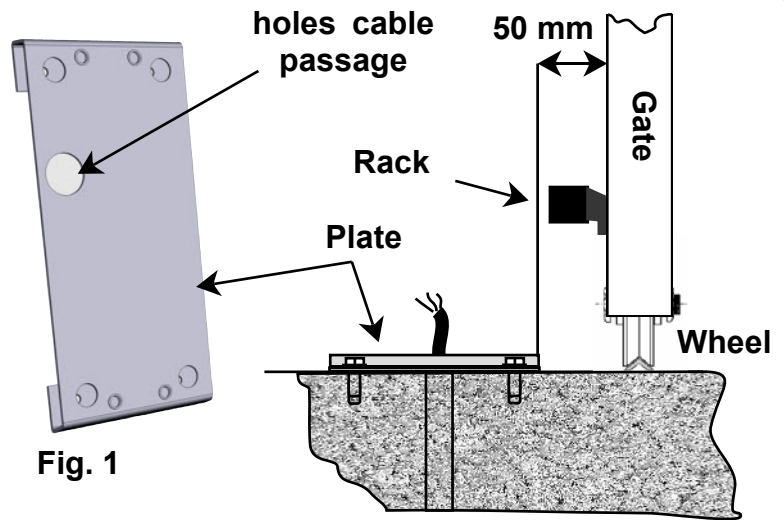
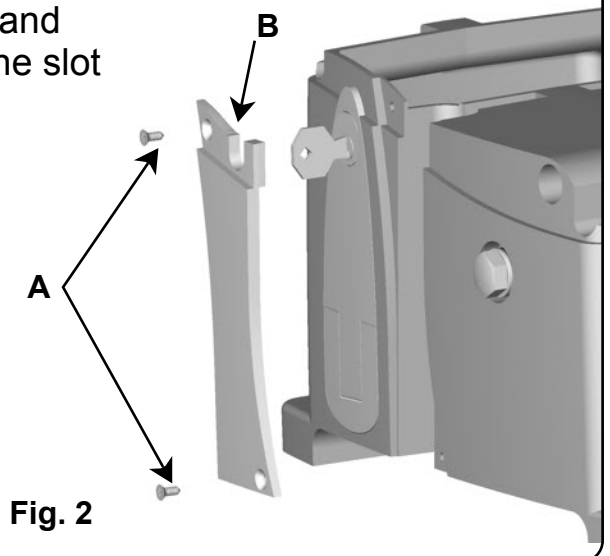
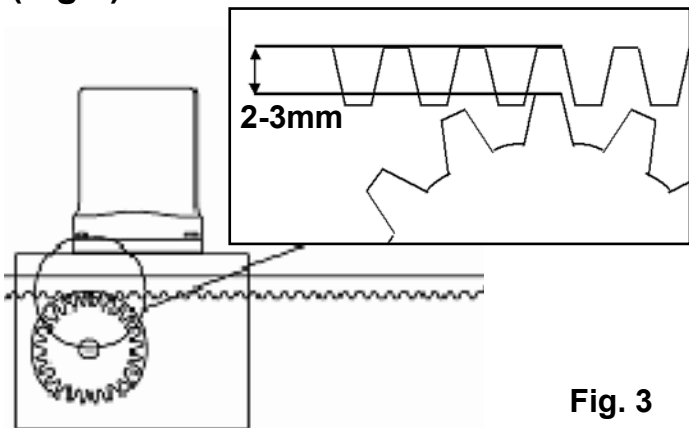

Fig. 1
Fig. 2
Fig. 3
- Also check that the runner on the ground ( **Fig. 1** ) is not deformed, is perfectly level and that the mechanical stop is present on opening ( **Fig. 2** ) in order to **prevent** the gate from going beyond the upper runners ( **Fig. 3** )
- Check the upper runner ( **see Fig. 3** ) is firm and the gate slides freely.
Position the plate provided (**Fig. 1**) 50 mm from the edge of the gate and perfectly square at an angle of 90°.
Remove the cop cover, unscrew the screws **A** and remove the cover **B** and route the cables into the slot of the motor. (**Fig.2**).
Fasten the rack to the gate firmly, leaving a distance of between 2 and 3 mm from the motor pinion (**Fig.3**).